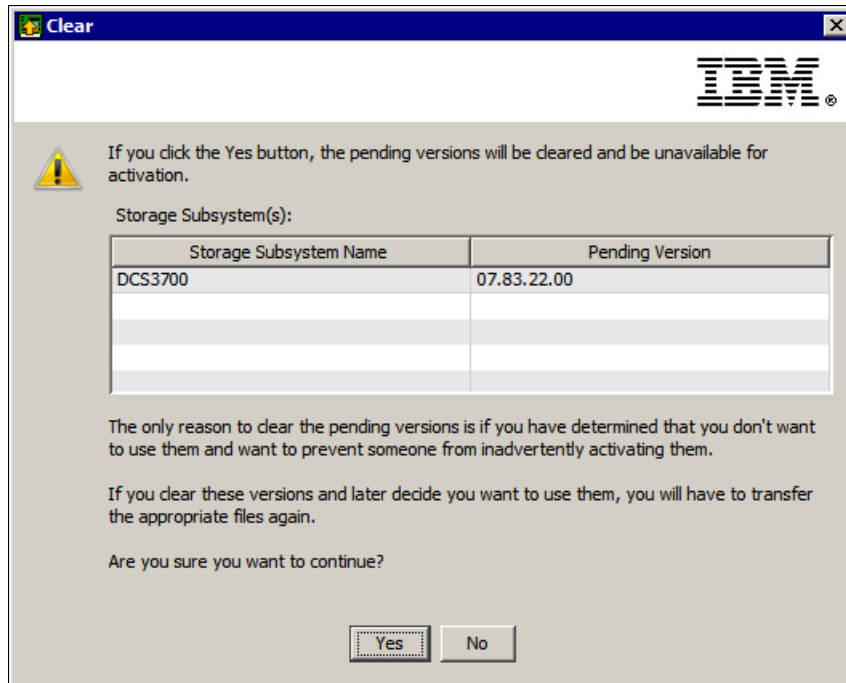

Figure 14-24 Clear pending firmware upgrade
- b. You are prompted to confirm that you want to clear the pending firmware upgrade, as shown in Figure 14-24.